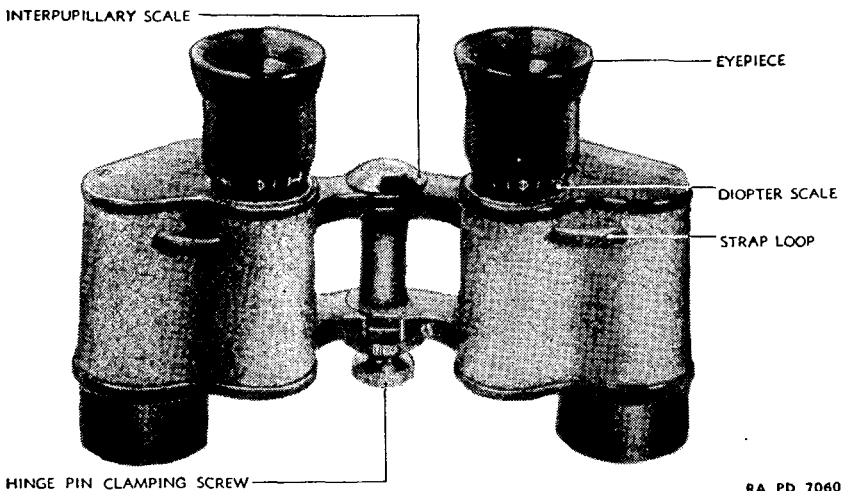

FIGURE 5.—Field glass, type EE.
3. Glass, field, type EE (fig. 5).—*a. General.*—These field glasses are made by either of two manufacturers, Bausch and Lomb Optical Company or the United States naval gun factory, and are so indicated on each glass. They are used for observation and approximate measurement of small angles. The Bausch and Lomb field glass is the preferred type of limited standard glass for issue to the using